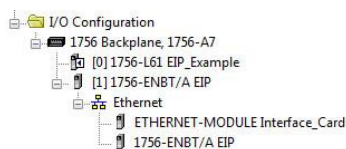

Figure 32: I/O Configuration Tree
- 6) After adding the I/O Module to the configuration, the full I/O Configuration tree should appear similar to Figure 32.